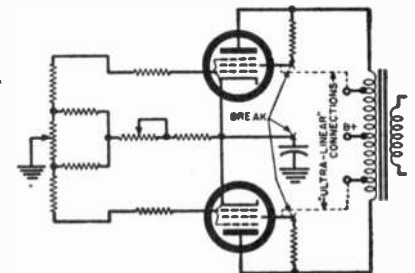

Fig. 1. Amplifier output stage changes.
Fig. 1. (A) Ideal response when the feedback is correct; part curves show instability points as feedback is increased. (B) Effects of various stability margins on the over-all response: 12 db is proper for high end and 18 db for low end.
about 18.5% of the impedance as called for in true "Ultra-Linear" operation. Nevertheless, by connecting these intermediate taps to the screen grids of the output tubes, definite improvement was achieved. Figure 1 shows the change in connections. Table 1B shows the results.
2. As shown in Fig. 1, the author's version of the Williamson included a cathode bypass capacitor across the common cathode resistance of the output tubes. According to the literature at the time, this capacitor served to improve low-frequency response. Upon removal of this component IM distortion went down slightly but significantly, no doubt because of the current feedback produced by the unbypassed cathode resistance. A check of 20-cycle response (minimum frequency of the available oscillator) showed no deterioration in the response at low or high levels.